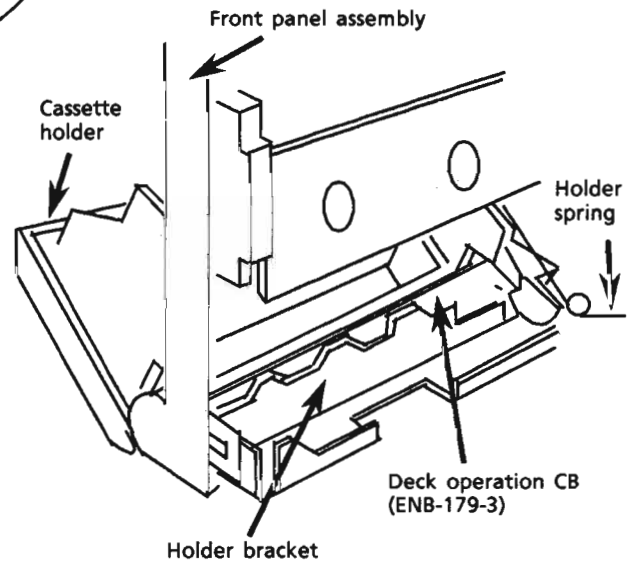

Figure6
2. Remove the holder springs (Figure 6).
2. Remove the 2 screws (I) fixing the circuit board to pull out the circuit board upward.
■ Removing the deck operation circuit board (ENB-179-3: Figure 6)